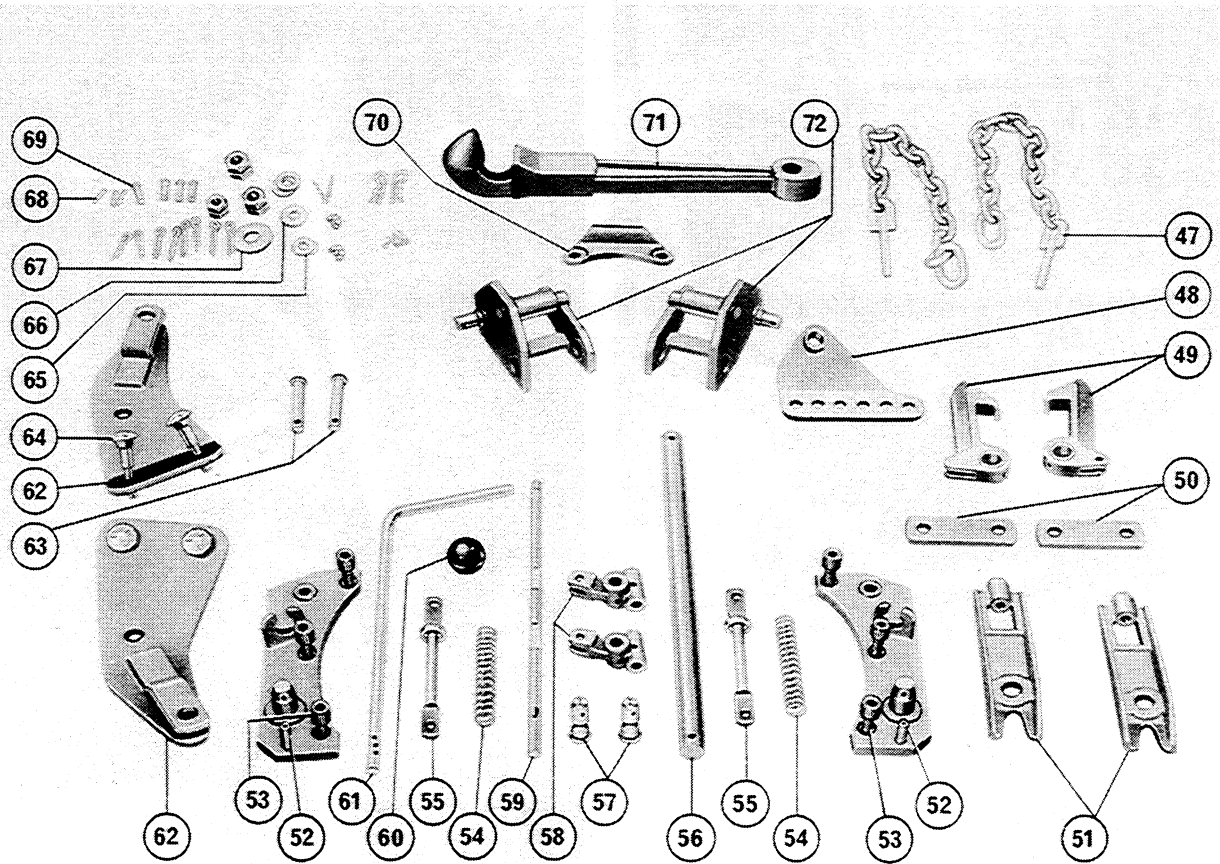

FIG. 18
1. Unpack the kit and check the contents against the packing list and figure 18.